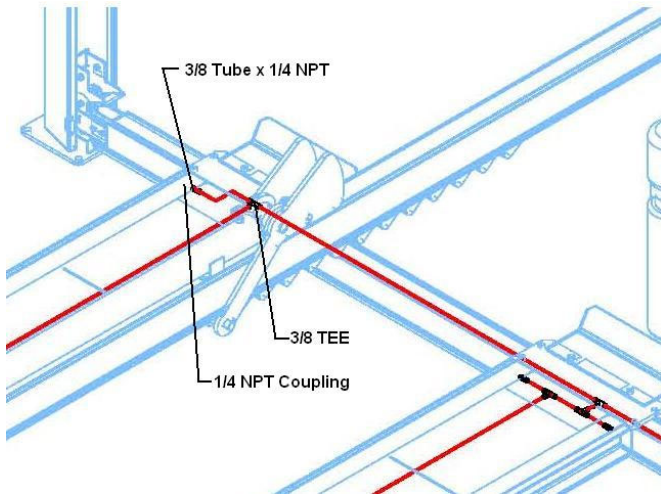

Figure 5
9. Route the 3/8 tube from the tee from the front crossbeam, passenger side to the tee in the front drivers side runway, **Fig 5**. Connect the 3/8 tube x 1/4 NPT fitting to the 1/4 NPT coupling welded in the runway.